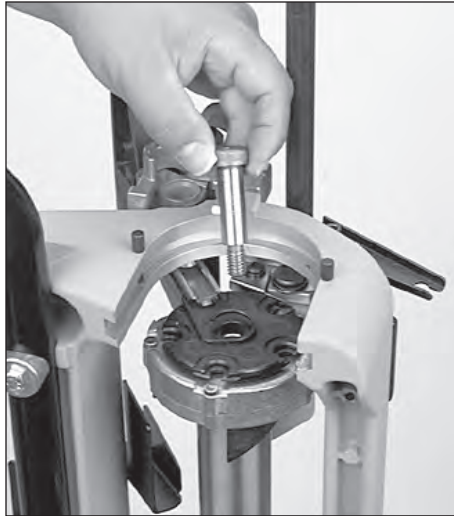

FIG 159
2. Using a 1/4" Allen wrench, remove the shellplate bolt **FIG 159**.